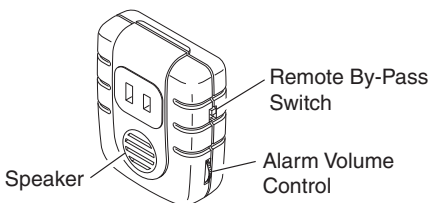

Figure 11 - Control Locations
4. Using Remote By-Pass Switch. The receiver is equipped with a remote by-pass switch (see Figure 11). This switch allows the user to select between AUTO and MANUAL modes. AUTO mode allows the light to be operated by remote control or remote motion sensor. MANUAL mode allows the plugged in light to be operated manually.
5. Adjust audio alert volume. The alarm sounds only when the receiver is activated by the wireless motion sensor and entry switch. The alarm volume is adjusted by the thumbwheel on the side of the receiver unit (see Figure 11).